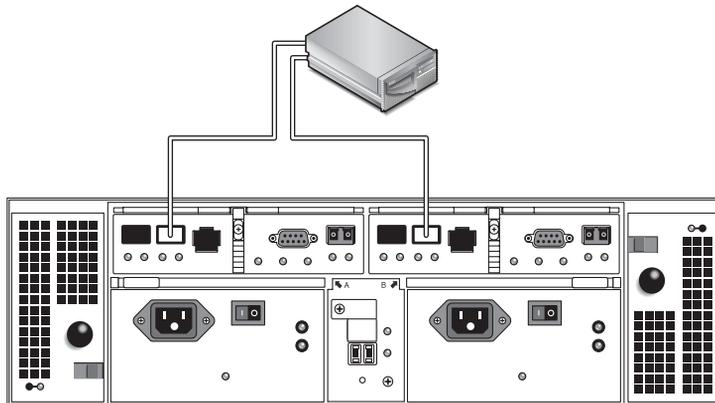
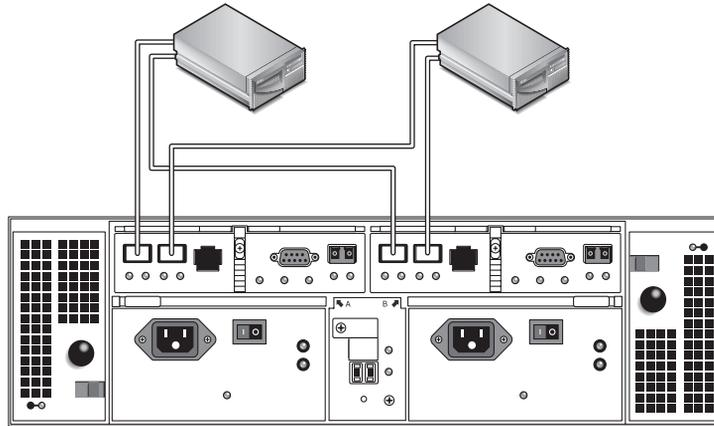

FIGURE 4-4 Direct Connection to a Single Host With Dual HBAs
FIGURE 4-5 Direct Connection to Dual Hosts With Dual HBAs
3. Connect the other end of each fiber-optic cable to the HBAs (FIGURE 4-4 and FIGURE 4-5).